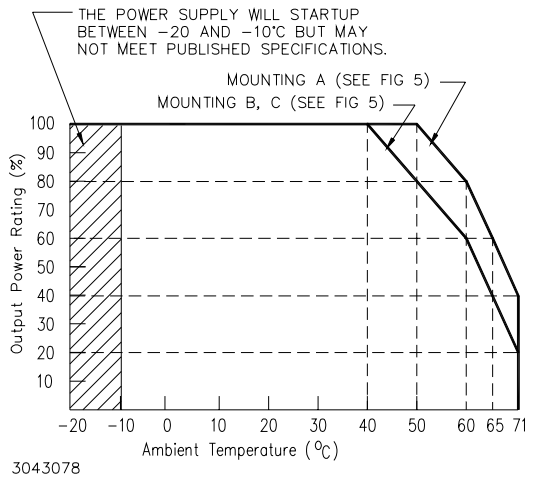

FIGURE 1. OUTPUT POWER VS. TEMPERATURE, K MODELS (WITHOUT COVER)
(1) Overtemperature or overvoltage shuts down the output. Recover by recycling a-c input (30 second delay required before resetting).
(2) Hiccup mode operation. After the cause of overcurrent is removed, output voltage recovers automatically.
(3) See Figure 1 for temperature and input voltage rating.
(4) Bandwidth 100MHz.
(5) Peak current: 10A (useful for motor start applications). Thermal protection (24V model only) cuts off output voltage if overtemperature detected; after sufficient cooling; recover by cycling a-c input.
(6) Ripple and noise will be approximately 1.5 times these values in the operating temperature range -10 ~ 0°C. The ripple and noise values tabulated are valid when the output is derated as shown in Figure 1 from 40 ~ 71°C.
(7) Used for remote programming of output voltage. See Section IV OPERATION, REMOTE VOLTAGE PROGRAMMING.
(8) Specifications apply to models with K (no cover) and KC (cover installed) suffixes.
OPERATING TEMPERATURE: -10 to 71°C (start up -20 to -10°C). See the derating, Figure 1. See Table 1, Note (1) for overtemperature protection recovery.
MOUNTING THE POWER SUPPLY: Refer to Figures 5 and 6. The unit may be mounted on one mounting surface. Note the restrictions for maximum penetration of mounting screws. The air temperature surrounding the power supply must not exceed the ambient values given in the graph in Figure 1.
2. REFER TO FIGURE 1 FOR OUTPUT POWER VS. TEMPERATURE FOR MOUNTING METHOD SELECTED.